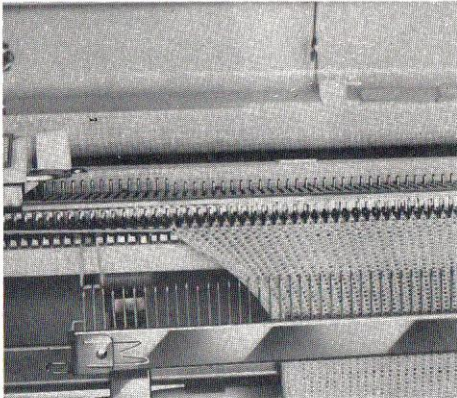

Fig. 38
- 1) Make two rings with yarn and hang the cast-on comb on the gate pegs by rings. The distance of the gate pegs and the hooks of the cast-on comb is decided by the length of the cable. (See Fig.38 and 39)